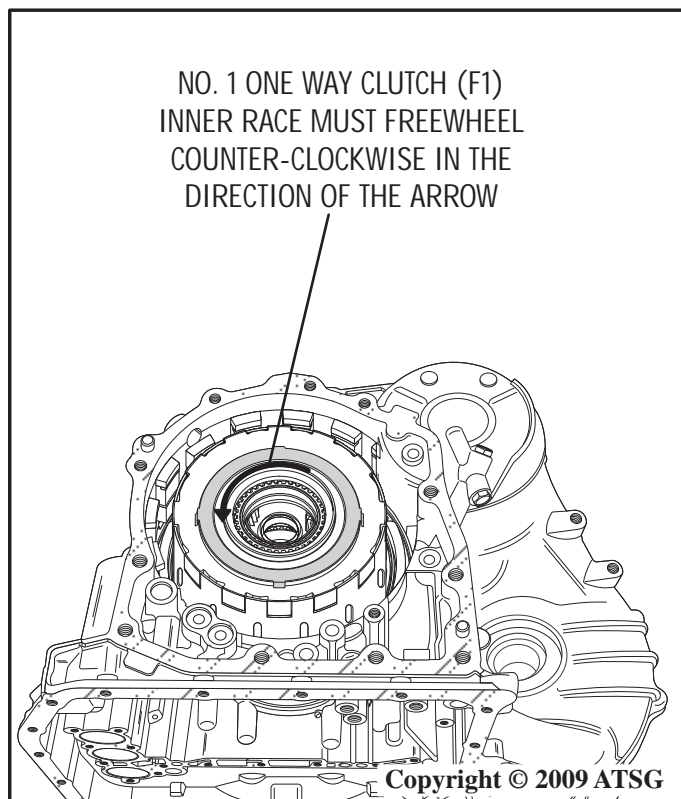

Figure 164
36. The one way clutch inner race must freewheel counter-clockwise as shown in Figure 164.